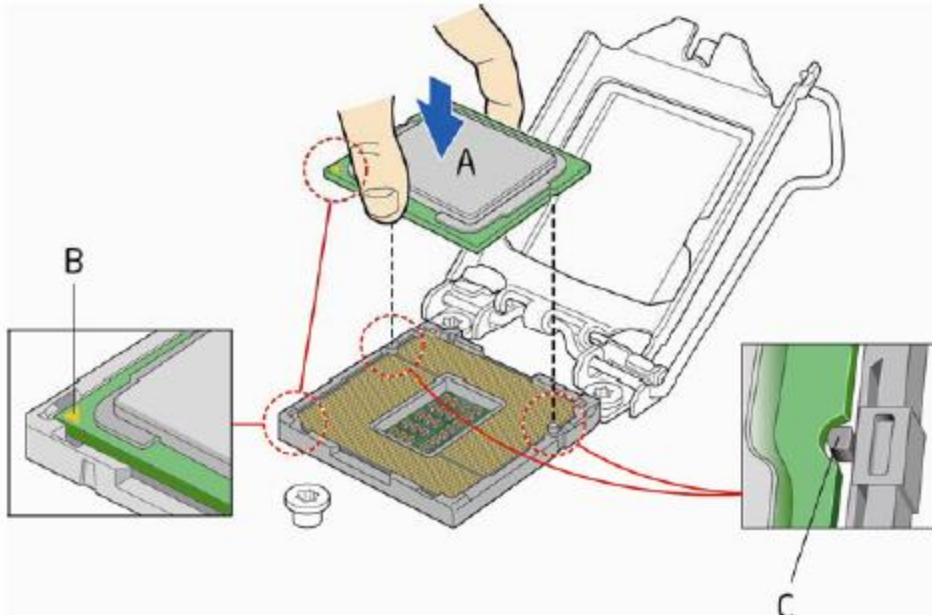

Figure 7: Install the processor
4. Hold the processor with your thumb and index finger oriented as shown in Figure 7 to align your fingers with the socket finger cut-outs. Make sure that the processor Pin 1 indicator (gold triangle) is aligned with the Pin 1 chamfer on the socket (Figure 7, B) and that the notches on the processor align with the posts on the socket (Figure 7, C). Lower the processor straight down without tilting or sliding it in the socket (Figure 7, A).